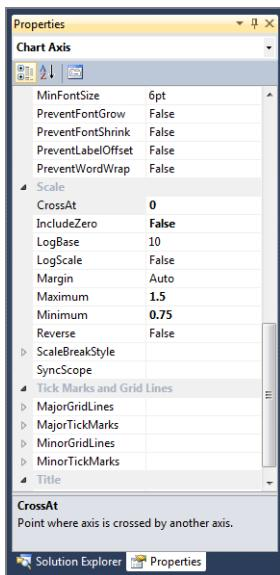

Figure 13-16
6. Find the `CrossAt` property in the Scale property category and change the value from `Auto` to `0`, as shown in Figure 13-16.